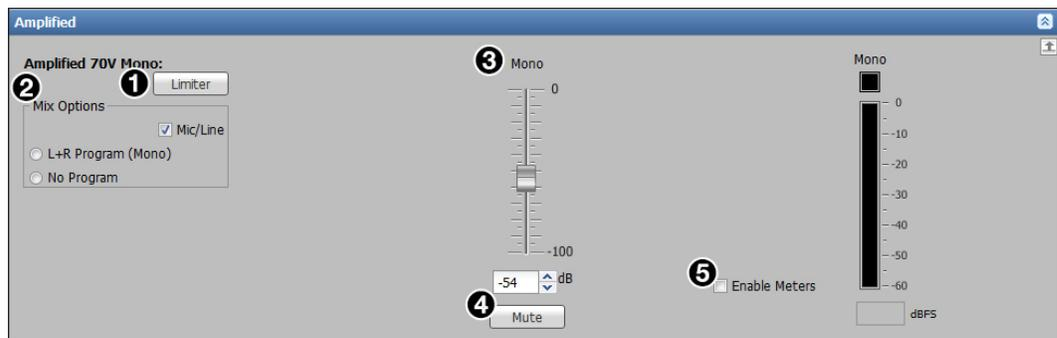
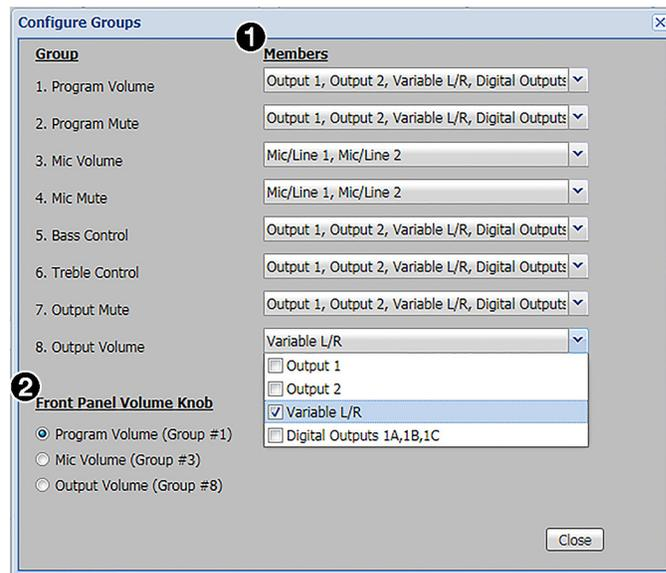

Figure 70. Amplified Audio Output Panel (MA Models)
Figure 74. Configure Groups Dialog Box
2. For the desired output, click the **Limiter** button (see figures 70, 1, on the previous page, through 74, 1, above) in the appropriate output section.
2. If desired, select the **Mic/Line** checkbox in the **Mix Options** panel (see figure 74, 2, on page 114) to include the mic/line inputs in the output.
2. If the section has multiple faders, click the **Gang** button (see figures 70, 72, and 73, 6, on page 113, and figure 74, 6, on page 114) to constrain the proportions between fader levels.
3. Adjust the level using any of the following methods (see figures 70-73, 3, on page 113, and figure 74, 3, on page 114):
1. In the desired output section of the web page, click the **Enable Meters** checkbox (see figures 70-73, 5, on page 113 and figure 74, 5, on page 114).